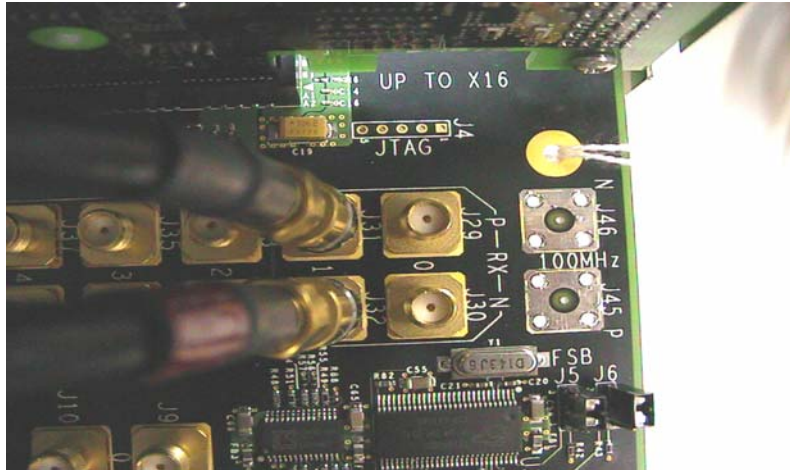

Figure 147 Compliance Base Board (CBB) SMA Probing Option
- a** Digital Storage Oscilloscope channel 1 to the TX LANE P under test (where Lane 1 is under test in this example shown in Figure 147 above).
- b** Digital Storage Oscilloscope channel 3 to the TX LANE N under test (where Lane 1 is under test in this example shown in Figure 147 above).